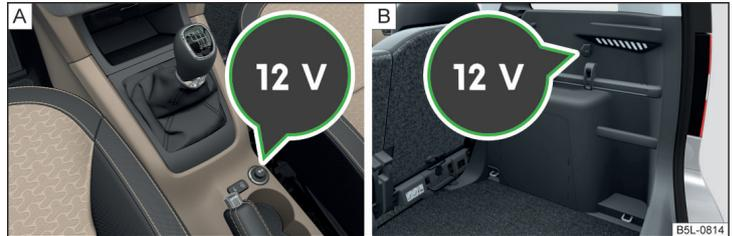

Fig. 83 12-Volt power outlet in the front centre console / in the boot
Overview of the 12-volt power socket » Fig. 83
- Remove the cover on the power socket » Fig. 83 - **[A]** or open the cover on the power socket as appropriate » Fig. 83 - **[B]**.